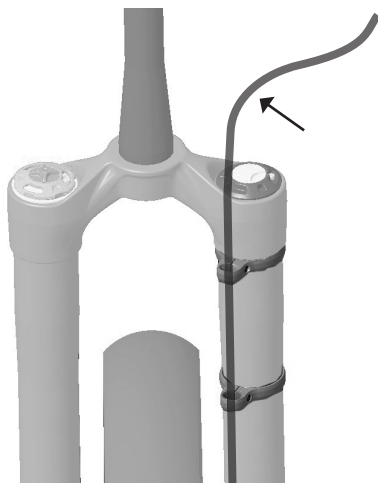
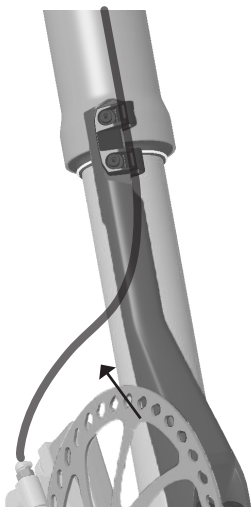

Figure 16: Sufficient hose length above upper brake hose guide
Figure 17: Full view of brake hose routing through brake hose guides and into mast
5. Verify the front brake hose length is sufficient above the upper brake hose guide to the brake lever (Figure 16). Verify there is a smooth arc in the brake hose between the brake hose clamp to the brake caliper (Figure 17). All sections of brake hose must have an unrestricted path during the compression of the fork.